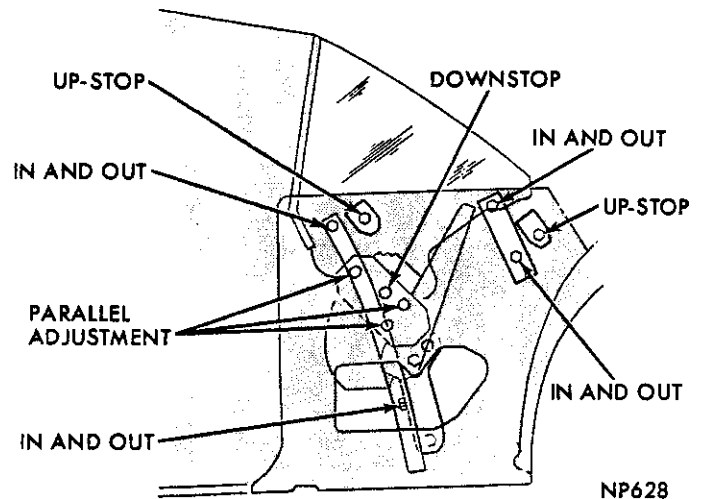
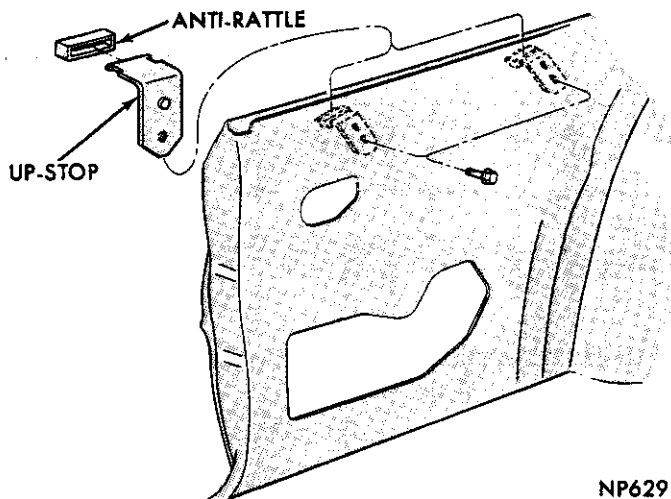
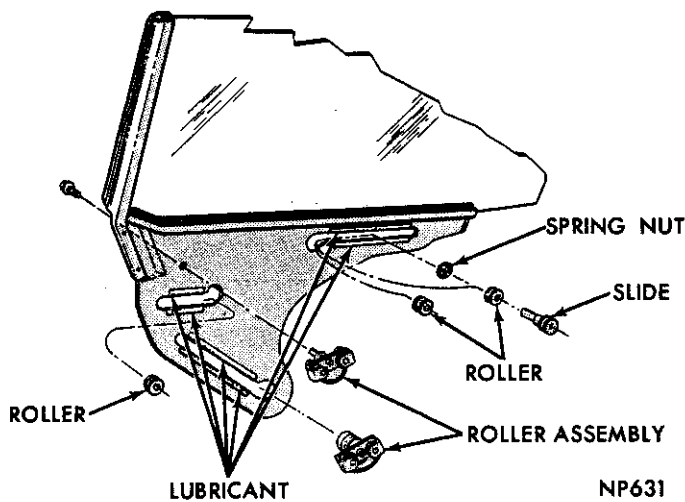

Fig. 41—Quarter Window Adjustments—Hardtop
Fig. 42—Quarter Window Up-Stops—Hardtop
Fig. 44—Quarter Glass Assembly—Hardtop
- (1) Raise quarter window 2 inches above belt line.
- (2) Adjust top of front and rear tracks (Fig. 41) until glass just touches the outer belt weatherstrip and tighten nuts.
- (3) Raise window to the upper weatherstrip and adjust regulator so glass at front contacts weatherstrip and is parallel to the weatherstrip bead. Tighten regulator screws.
- (4) Adjust bottom of front and rear tracks until upper edge of glass seals against roof weatherstrip. Tighten nut on rear track only.
- (5) Tighten adjusting screw on bottom of front track to lower brace.
- (6) Position front and rear up-stops (Fig. 42) to glass lower frame stops and tighten screws.
- (7) Adjust regulator down stop (Fig. 41) so glass contacts outer weatherstrip lightly for full length.
(2) Remove up-stops from lower frame (Fig. 42).
(3) Remove glass assembly from door.
(4) Remove slide and roller from glass frame rear track and roller assemblies from tracks in front section (Fig. 44).